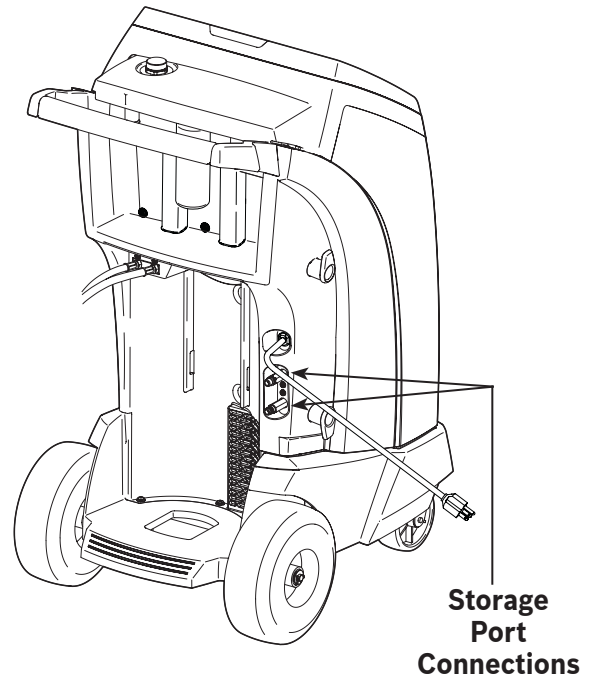

Figure 3
2. Connect the service hoses to the machine's storage port connections as shown in Figure 3.
2. If the system does NOT have an electric compressor with POE oil, select **X** to continue. If the system has an electric compressor with POE oil, select **✓** to flush all residual oil from the hoses. The user will be prompted to "Connect service hoses to storage ports and open coupler valves." See "Figure 3" on page 19. Continuing will begin the process of flushing the hoses. Once complete, select **▶▶** to continue through the Charge process.